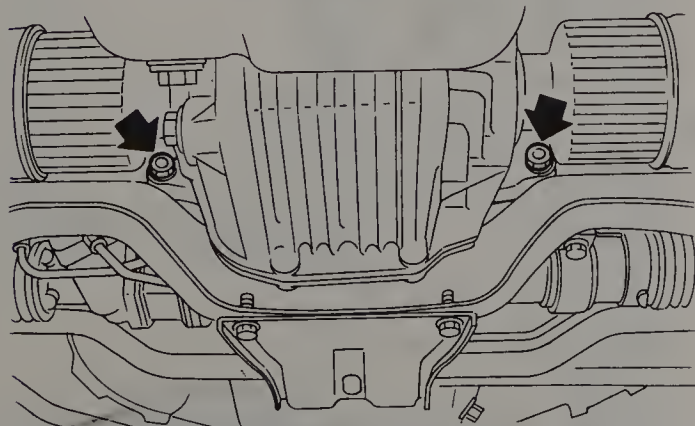

Fig. 13.11 Remove the lower engine-to-transmission nuts (arrows) (Sec 5)
- 28 Remove the lower engine-to-transmission nuts (Fig. 13.11).